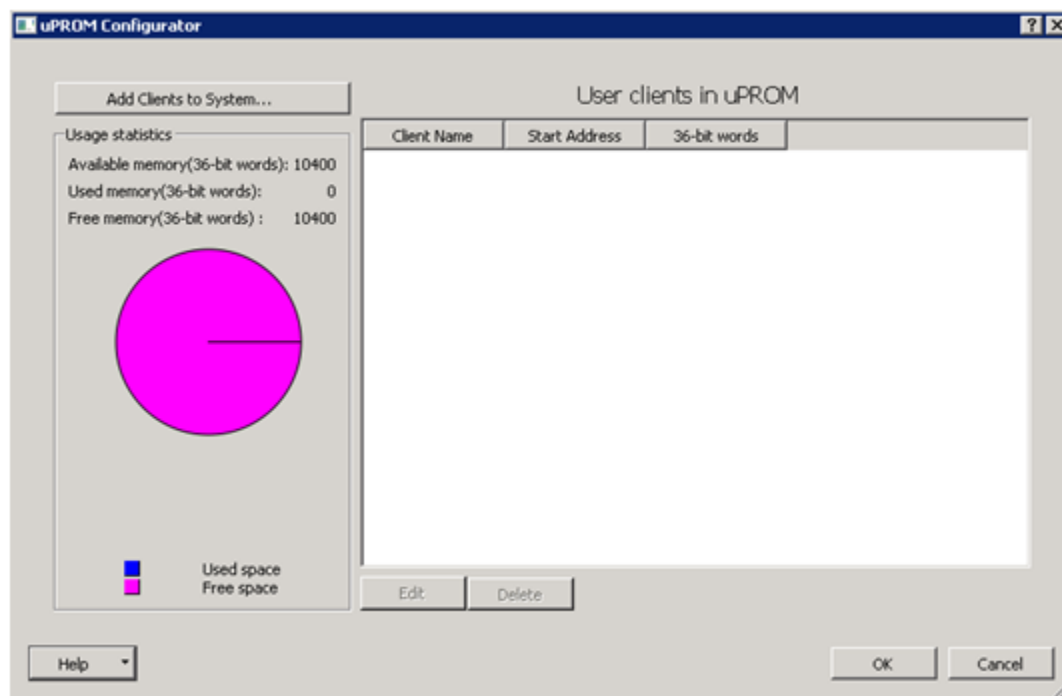

Figure 1-2 • RTG4 uPROM Configurator
3. In the uPROM Configurator, click **Add Clients to System** to add a Client to the uPROM (Figure 1-2).